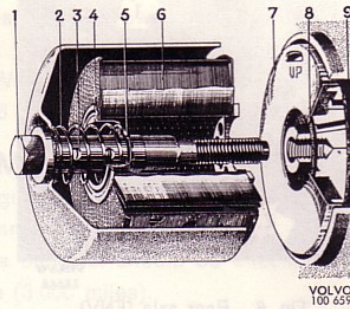

Fig. 10. Oil filter (B 16)
3. Take off the oil filter. Remove the old filter element (6, Fig. 10) and wash the housing in white spirit or similar.
4. Fit a new gasket (9) and make sure that the intermediate plate (7) is placed so that the hole marked "UP" comes at the top. Check that the sealing parts are fitted on the centre bolt and fit the filter element (6) and housing. Make sure that the housing locates properly in its guide in the bracket. Tighten the centre bolt (1) to a torque of 2 kpm (15 lb.ft.).